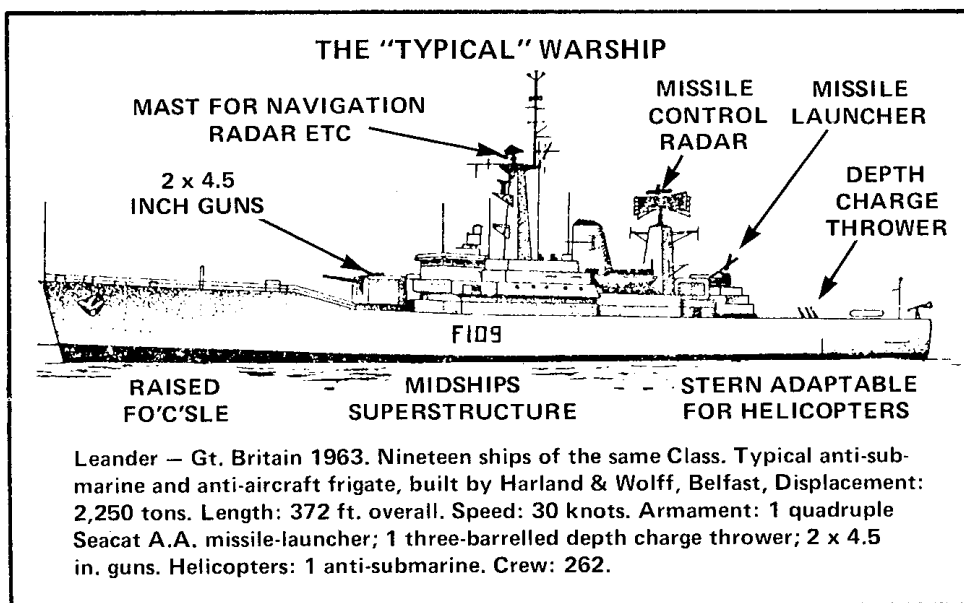

Figure 8-79 A Typical Warship
- 16. **The Typical Warship** — This is illustrated in Figure 8-79 below.